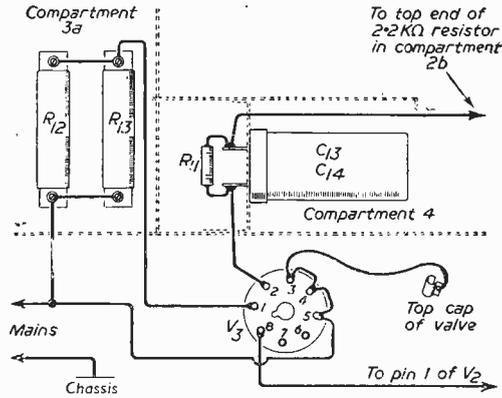

Fig. 6.—Wiring of the mains side.
15. Compartment 3b. Wire the valveholder as shown in Fig. 6 and wire associated components.